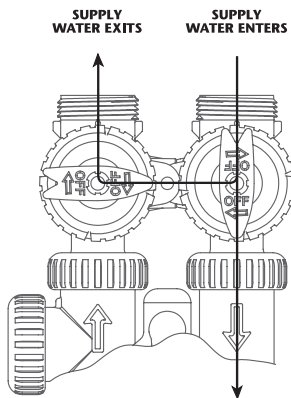

Figure 3
3. **DIAGNOSTIC POSITION:** The inlet handle points toward the control valve and the outlet handle points to the center of bypass valve. Untreated supply water is allowed to flow to the system and to the building, while not allowing water to exit from the system to the building (**Fig. 3, page 4**).
6. Carefully remove old cartridge from system (**see Fig. 3**). The cartridge will contain water and will splash or drip. Place used cartridge into a 5 gallon bucket to protect area from water damage.
4. Remove top cap of system by lifting up on top handles (see Fig. 3).